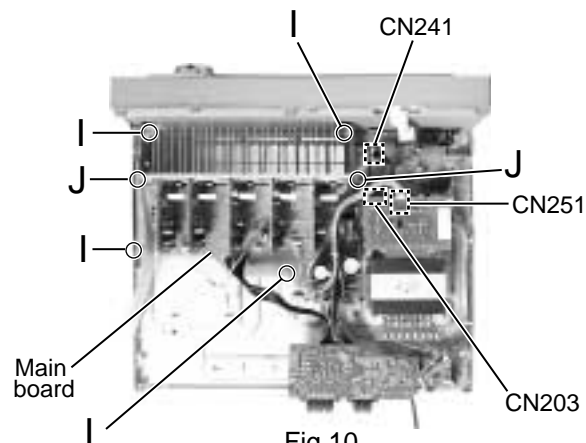

Fig.10
■ Removing the main board (See Fig.10)